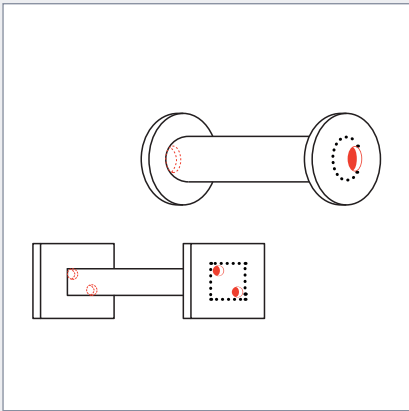

Fig. 18
- Where holes are provided in end plates or capping pieces, they should be placed diagonally opposite to one another, off centre and as near as possible to the wall of the member to which the end plate is connected (fig.18).